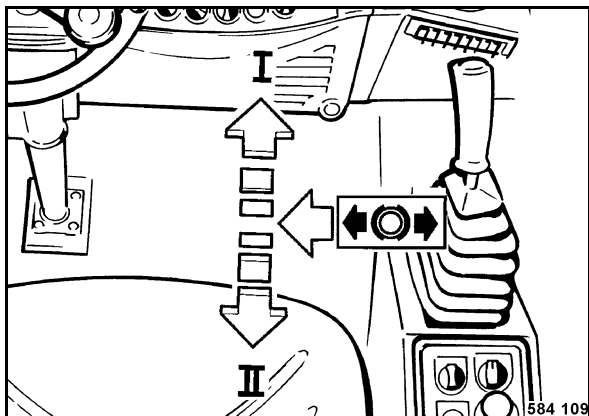

Fig. 172
- Move the travel lever (Fig. 172) forward, backwards and to braking position. Thereby check for function, light movement, clearance and damage.